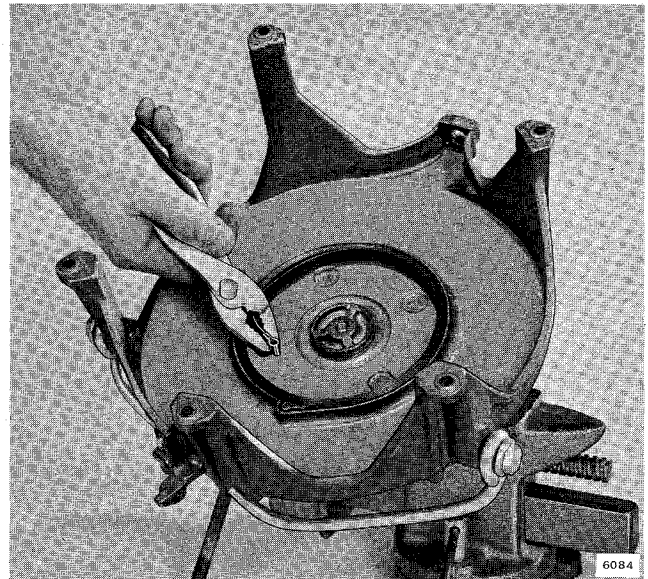

Figure 8-6. Aligning Inside End of Spring Loop
- c. Note alignment of inside end of spring loop with anchor pin in pulley and align with pliers if necessary. See Figure 8-6.